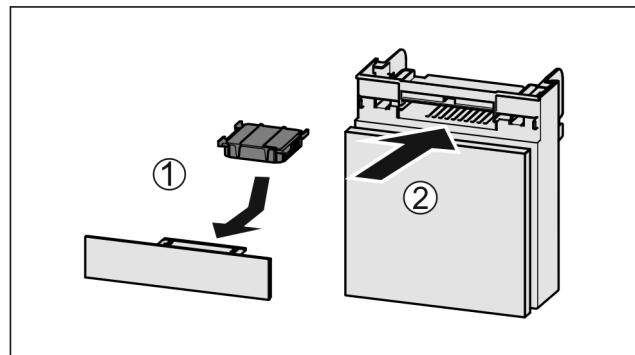

Fig. 88
► Insert the carbon filter as shown in the diagram Fig. 88 (1).
- ▶ Push the compartment in *Fig. 88 (2)*.